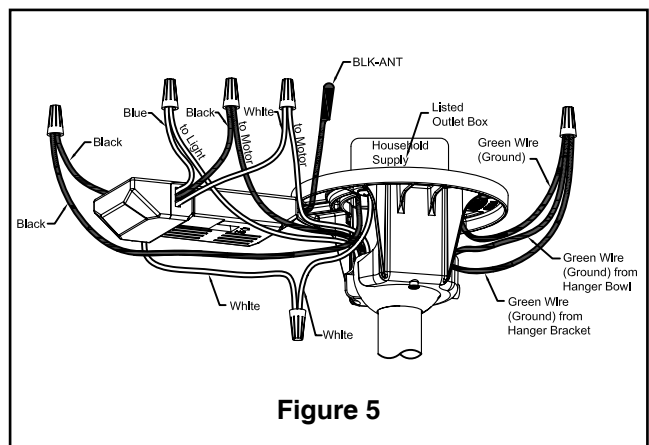

Figure 5
5. Reinstall the hanger ball on the downrod as follows. Route the three 80-inch wires through the hanger ball. Position the pin through the two holes in the downrod and align the hanger ball so the pin is captured in the groove in the top of the hanger ball. Pull the hanger ball up tight against the pin. Securely tighten the set screw in the hanger ball. A loose set screw could create fan wobble (Figure 5).
4. Connect green wires from hanger bracket and hanger ball to bare (ground) wire using wire connector supplied. Connect black wire from receiver unit marked "AC IN L" to black supply wire using wire connector supplied. Connect white wire from receiver unit marked "AC IN N" to white supply wire using wire connector supplied. Connect white wire from receiver unit marked "TO MOTOR N" to white wire from fan using wire connector supplied with receiver. Connect black wire from receiver unit marked "TO MOTOR L" to black wire from fan using wire connector supplied. Lastly, connect blue wire from receiver to the blue fan light wire using wire connector supplied. Position all connected wires and receiver antenna to allow installation of ceiling canopy (Figure 5).
- ☐ 5. Remove one of the three screws in the housing light kit assembly. Slightly loosen the remaining two screws. Assemble the socket plate to the light plate assembly using the two key slots. Replace the third screw and securely tighten all three screws (Figure 5).